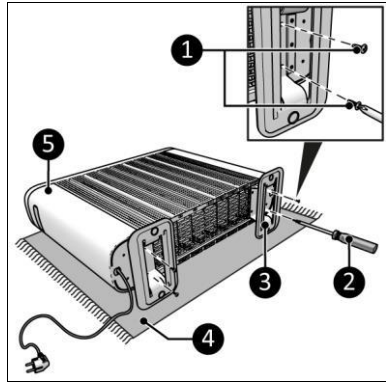

Figure 4
1. Lay the device down on a steady soft surface (Figure 4, pos. 4).
2. Place the pedestals (Figure 4, pos. 3) on both sides of the main body (Figure 4, pos. 5).
3. Screw and tighten the pedestals with two screws (Figure 4, pos. 1) using a Phillips screwdriver (Figure 4, pos. 2).